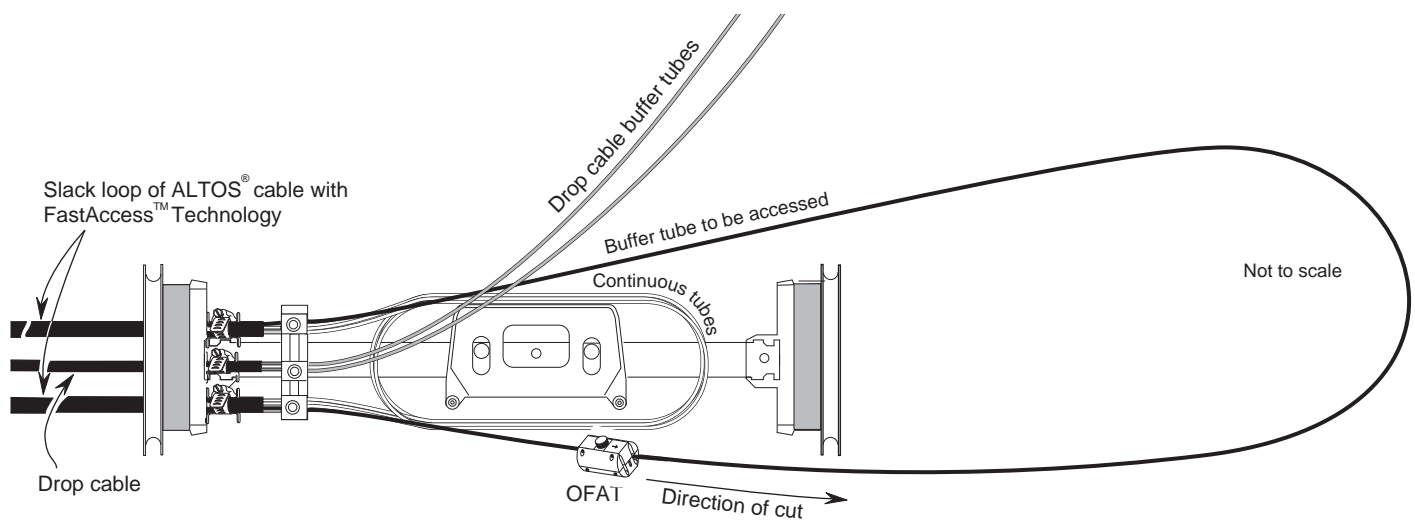

Figure 37
5.19 Access the appropriate buffer tube(s) as described in the OFAT tool's instructions (Figure 37).